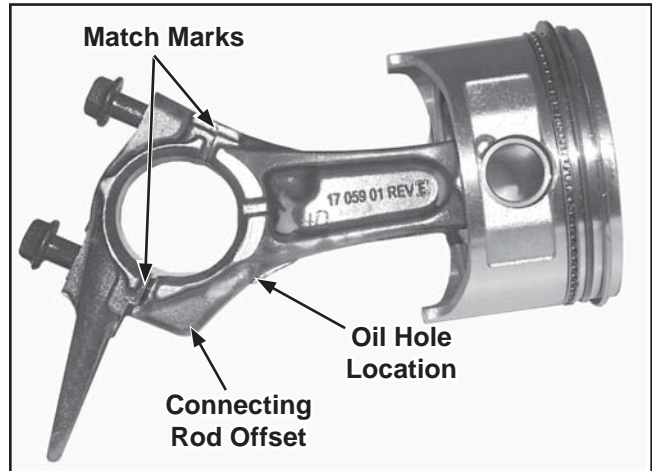

Figure 11-22. Connecting Rod Details.
- b. The connecting rod offset is down and oil hole is in the 4 o'clock position shown. Match marks should align as shown with dipper down. See Figure 11-22.